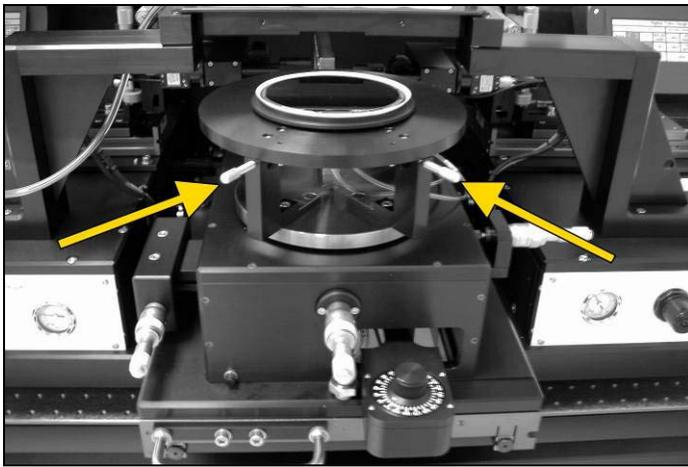

Figure 9-10 Wafer chuck screws
STEP 6- Verify wafer chuck. Before the substrate can be loaded make sure that the wafer chuck is the correct size for the wafer. Start by pulling the wafer chuck out manually by the handle in front. There are magnets in back of the alignment stage and you will need to pull hard. Typically the 4 inch wafer chuck will be on. If a 3 inch or 2 inch wafer will be used the wafer chuck will need to be replaced with a different size. If the 4 inch (or whatever is present) is appropriate then proceed to next step. To replace wafer chuck first go to LCD control panel and press LEVEL SCREEN and make sure that the substrate vacuum is turned OFF (i.e. the button should be white). Then return to main menu and press RUN SCREEN and ensure that the CONTACT VACUUM is turned OFF. Now disconnect the vacuum tubes located at the base of the wafer chuck. There are not easy release valves so it may be necessary to wiggle the tubes off. The vacuum tube labeled BALL LOCK or BALL VACUUM will not be able to be shut off, so a hissing sound will be present after it is disconnected. Now unscrew the chuck screws (Figure 9-10) and remove the wafer chuck. There is a cabinet to the right of the mask aligner that houses the different sized chucks. Put the chuck that was just removed into the cabinet and replace with the correct size. Once the new wafer chuck is screwed in place the tubes can be reconnected to correct valves.